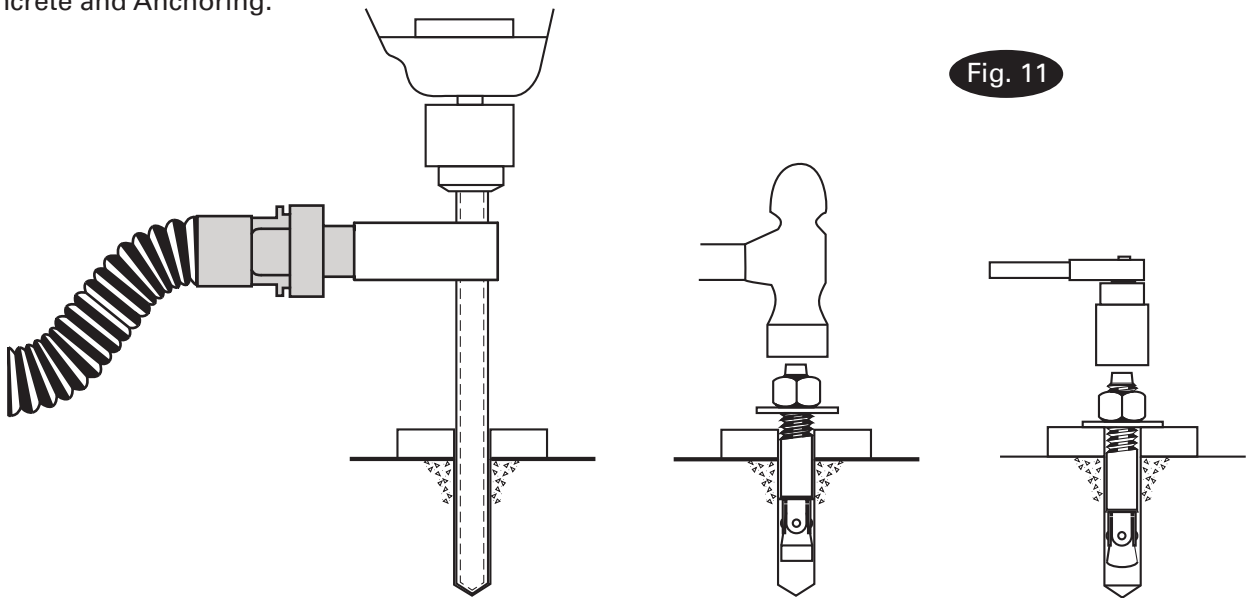

Fig. 11
If more shimming is required, consult factory for different shim package including longer anchor bolts. Drill four  $\frac{5}{8}$ " diameter holes through concrete floor using base holes as guide, Fig. 11. Repeat for other columns.
- D. Insert base anchors, Fig. 11. Repeat for other columns. Tighten nuts. Recheck columns for plumb. Re-shim if necessary. Torque anchor bolts to 60 ft. lbs., Fig. 11. If anchor bolts do not hold when torqued to required amount, concrete must be replaced. Saw cut and remove 24" x 24" square area under each column base. Re-pour with reinforced # 3000 minimum concrete to depth of 6", keying new concrete under existing floor.